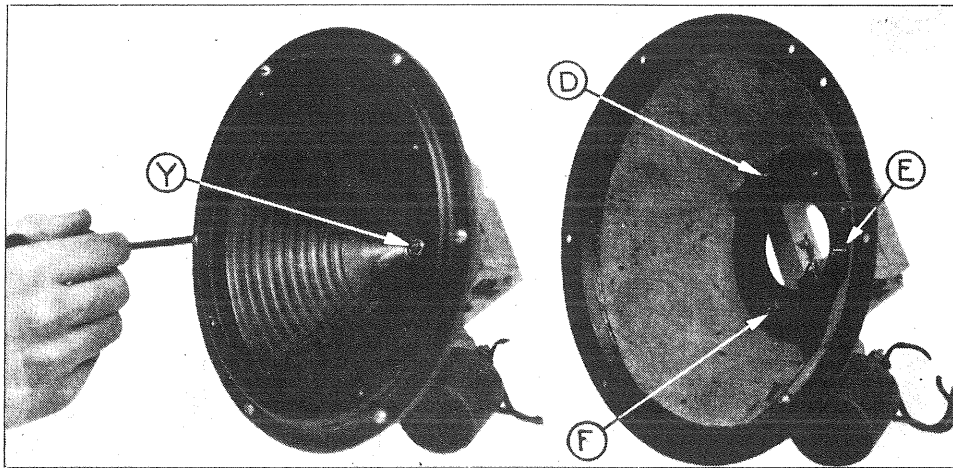

Figure 7—Cone, showing six mounting screws around edge and lock nut (Y) and motor mechanism mounting screw nuts D, E, F
- (b) Remove the cone by breaking the wax seal and releasing the cone lock nut (Y, Figure 7) and the six retaining screws with nuts and washers around the edge of cone. Then release nuts D, E, F, Figure 7, from the three magnet supporting screws.
- (d) Replace washer and cone lock nut Y, Figure 7, on driving rod. Tighten and seal with ordinary sealing wax. Gradually seat the six retaining screws around edge of cone.